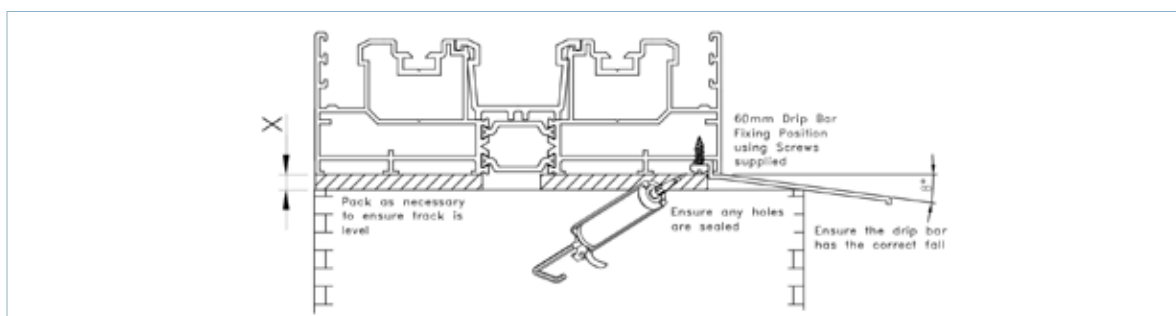

FIG 9
2. If using a drip bar, ensure that when fitted, all pre-drilled holes are filled with silicone before being fixed into position with the screws supplied (FIG 9)